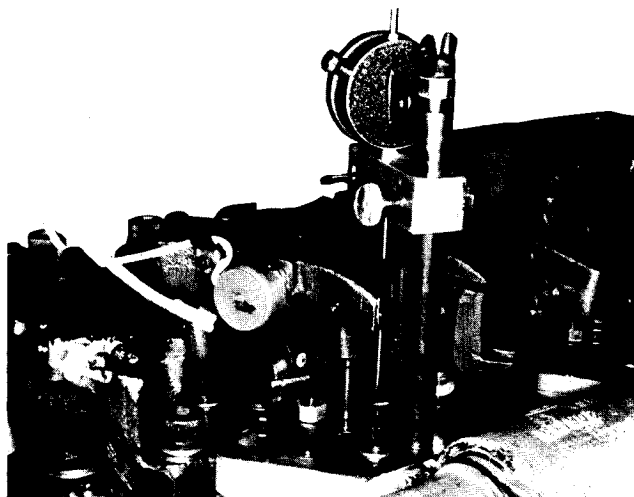

Fig. 2-53, (K114130). Dial indicator in place — extension in contact with plunger — KT(A)-1150
2. Install 3375004 Dial Indicator Assembly to rocker housing, extension (3375005) must go through opening in Jacobs Brake housing and contact injector plunger top. Fig. 2-53.
3. Screw injector lever adjusting screw down until plunger is bottomed in cup, back off approximately 1/2 turn then bottom again, set dial indicator at zero (0).